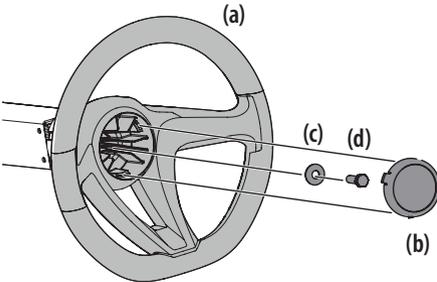

Figure 6
1. Remove the hardware for attaching the steering wheel (a) from beneath the steering wheel cover (b). Carefully remove the cover by inserting a small, bladed screwdriver into one of the three snap locations and slowly prying up on the steering wheel cover (b) to remove the hardware. See Figure 6.
2. With the wheels of the machine pointing straight forward, place the steering wheel (a) over the steering shaft. See Figure 6.
3. Place the Belleville washer (c) with the cupped side facing inward over the steering wheel and secure with the hex lock screw (d). See Figure 6.
4. Place the steering wheel cover (b) over the center of the steering wheel (a), align the three snaps with the tabs in the steering wheel and push downward until it "clicks" into place. See Figure 6.